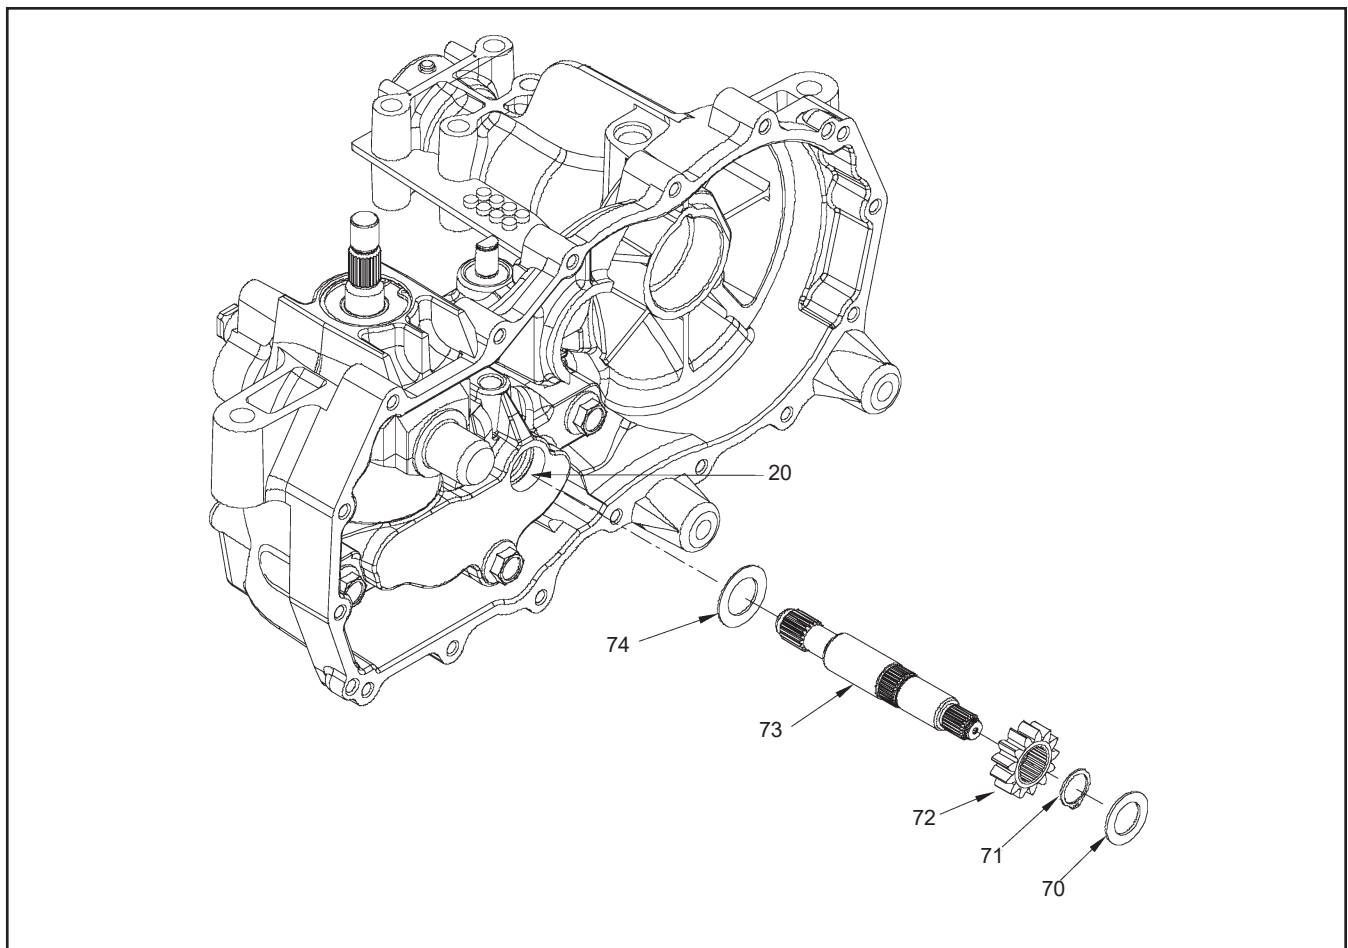
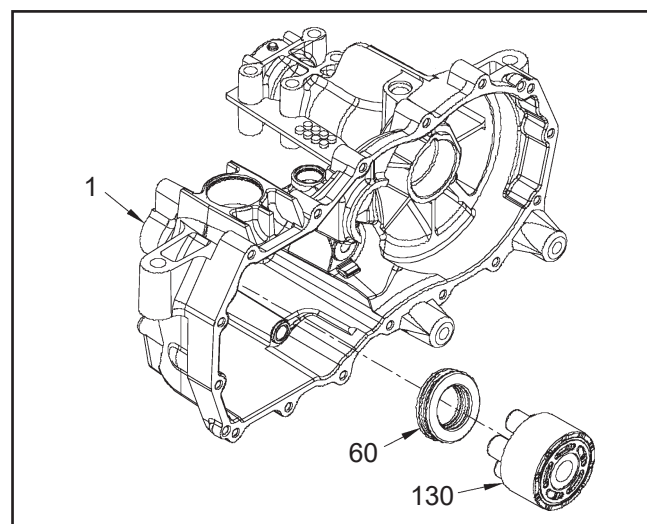
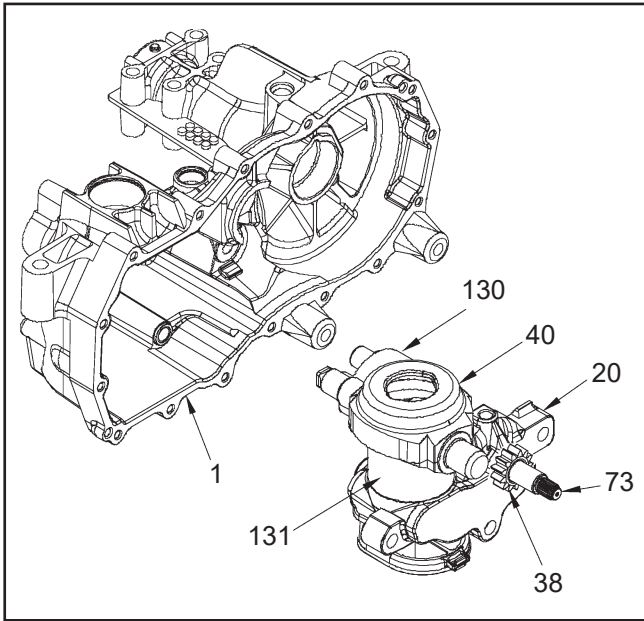

Figure 8. Motor Shaft
Figure 17.
Figure 18.
Refer to Figure 8.
17. **(See Figure 17)** Remove the motor cylinder block assembly (130) from the housing (1).
18. Disassemble the motor cylinder block assembly (130). Check each piston for proper operation by pressing the pistons in and releasing them in the block bore. Disassemble the motor cylinder block. Check for piston/block wear in the cylinder bore. Inspect the pistons, piston springs and thrust washers for excessive wear or damage.
1. **(See Figure 17)** Turn the housing (1) so the motor thrust bearing cavity is facing up. This will assist in the installation of the motor thrust bearing assembly (60) keeping it in the bearing cavity during installation of the center section assembly (20, Figure 18).
2. Insert the thrust bearing (60) in the housing (1). NOTE: Place the thin race of the bearing towards the housing bearing cavity. The thick race must face the pistons.
6. **(See Figure 8 & 18)** Install the motor shaft (73), pinion gear (72) and flat washers (74 & 70) into the center section (20).
7. Assemble the motor block assembly (130) onto the motor shaft (73).
8. **(See Figure 18)** Install the motor shaft, center section and motor block assembly into the housing so that the motor block pistons contact the thrust bearing race. NOTE: Hold in place and insure all pistons are still positioned correctly in the cylinder bore by confirming spring bias against the center section.
14. *Care must be taken to prevent the scaring or scratching of the center section sealing face during this step.* Insert the shaft of the swashplate/pump block assembly (Figure 18) into the housing while simultaneously compressing the pistons in the block. NOTE: To assist in the installation of these components, insert the assembly until 3/4 of the pump block is covered by the center section. Then slightly press the shaft end toward the center section while pushing the shaft into its bore.